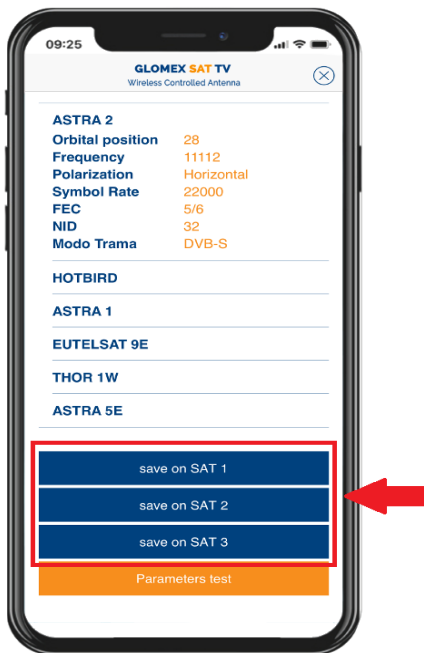

Fig. 29
- 1) set the satellite selected in one of the three positions of the control unit (**Fig. 29**).